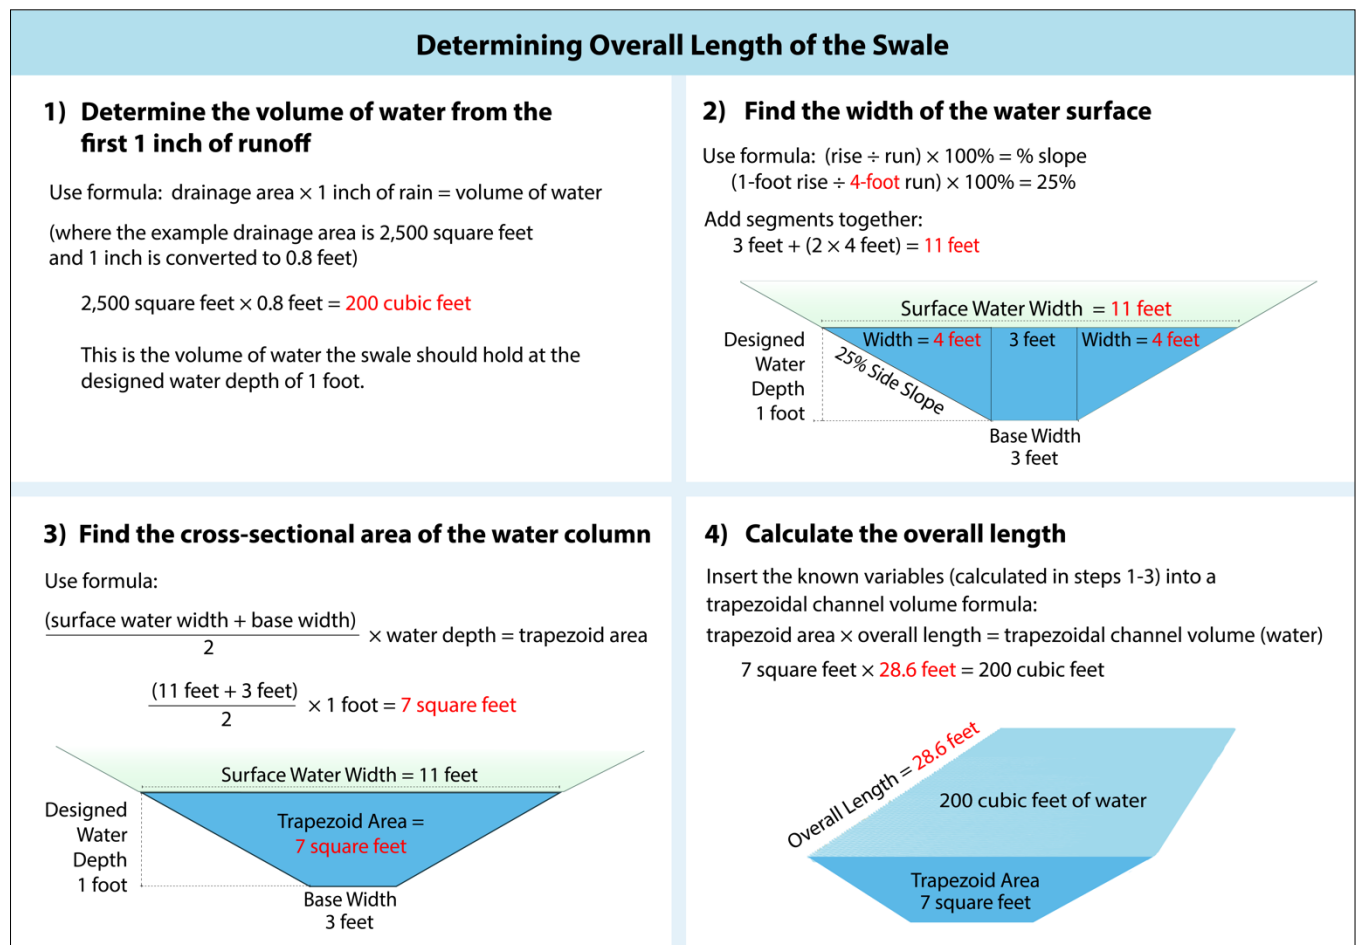

Figure 4. The final length of the swale based on the calculated dimensions for swale water volume, width, and trapezoidal area.
- Swale length** - To calculate overall swale length, the following values are needed: 1) the volume of water flowing to the swale from the first 1 inch of runoff from the contributing drainage area, 2) the width of the water surface in the swale at the designed water depth, and 3) the cross-sectional area of the water column in the swale at the designed water depth. See Figure 4 for an illustration of these calculations.